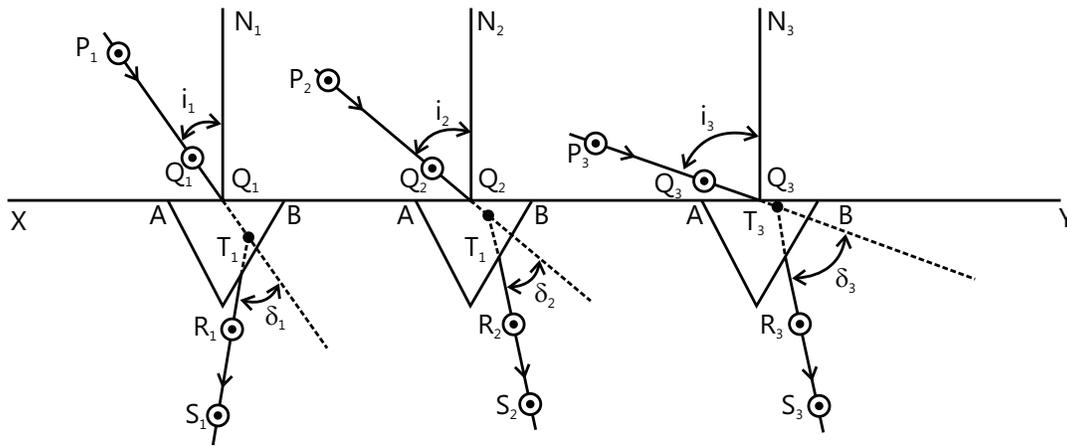

Figure 27.35
- (c) Mark points  $O_1, O_2, O_3, \dots$  on the straight line  $XY$  at suitable distance of about 8 to 10cm and draw normal  $N_1O_1, N_2O_2, N_3O_3, \dots$  on these point (Fig. 27.35).
- (d) Draw straight lines,  $P_1O_1, P_2O_2, P_3O_3, \dots$  corresponding to the incident rays, making angles of incidence at  $35^\circ, 40^\circ, 45^\circ, 50^\circ, \dots, 60^\circ$  respectively with the normal, using a protractor. Write the values of the angles  $\angle P_1O_1N_1, \angle P_2O_2N_2, \angle P_3O_3N_3, \dots$  on the white paper sheet (Fig. 27.35)
- (e) Place the prism with its refracting face  $AB$  on the line  $XY$  with point  $O_1$  in the middle of  $AB$  as shown in the Fig 27.35. Draw the boundary of the prism with a sharp pencil.